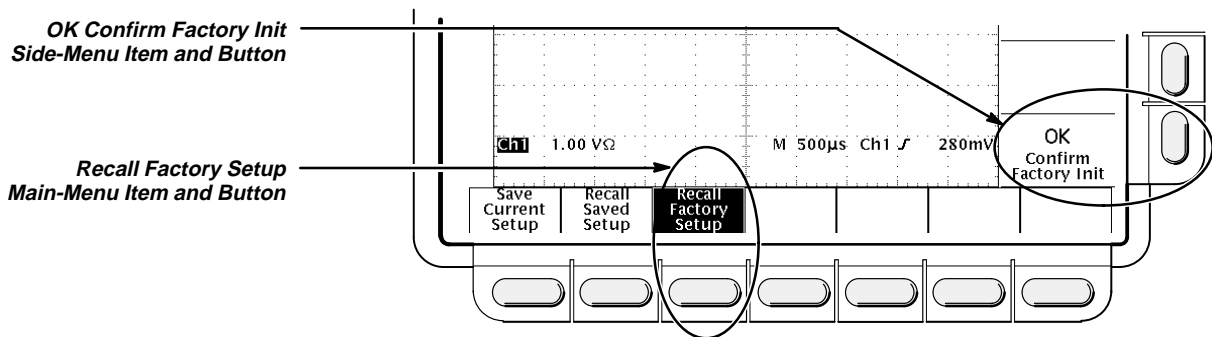

Figure 1-3: The Displayed Setup Menu
Main menus are displayed along the bottom of the oscilloscope screen. Figure 1-3 shows the Setup main menu.
*Side menus* are shown along the right side of the oscilloscope screen (see Figure 1-3)
Because an accidental instrument reset could destroy a setup that took a long time to create, the oscilloscope asks you to verify the **Recall Factory Setup** selection (see Figure 1-3).